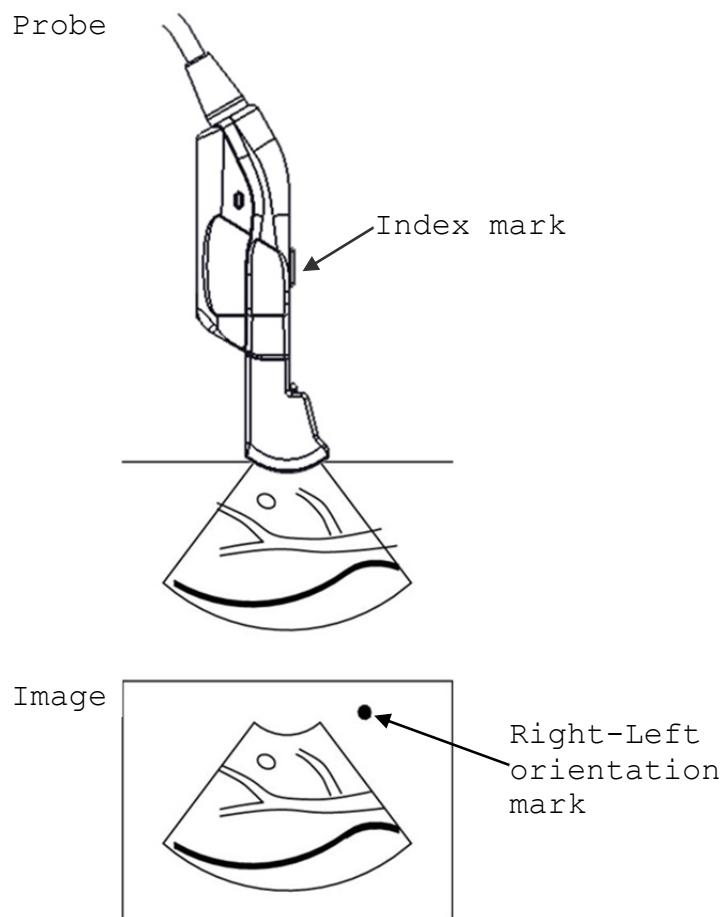

Fig. 4 Relationship between the directions of the probe and the Right-left orientation mark
- 4) The relationship between the direction of the probe and the image is shown in Fig. 4. The right-left orientation mark on the image indicates the index mark on the probe.